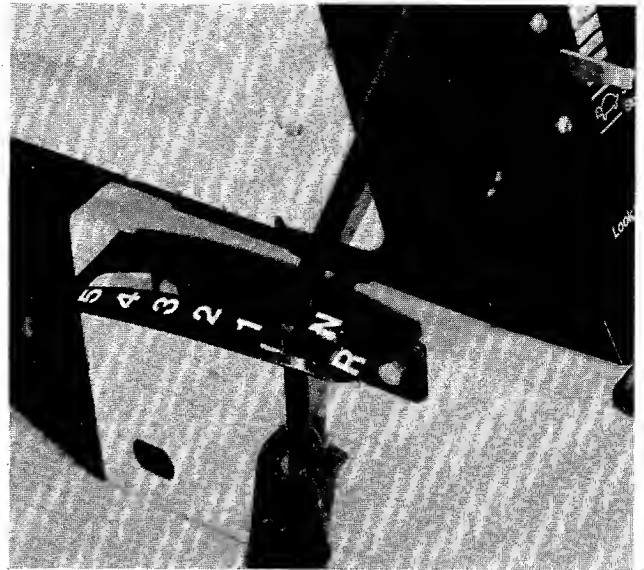

FIGURE 11.
The transaxle has five forward gears, neutral and reverse. You do not shift through the gears on the transaxle as you would in an automobile. Pre-select the gear appropriate for the job you are doing. See figure 11.
3. Place the gear shift lever in the "NEUTRAL" (N) position. See figure 11.
6. Select one of five forward gears. See figure 11.